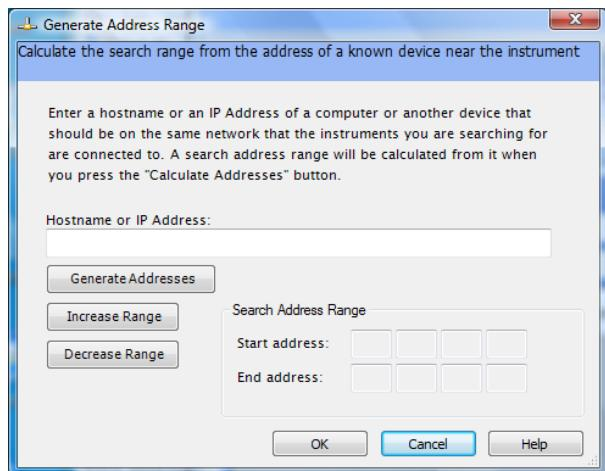

Figure 38 Generate Address Range Dialog
- a. Alternately, select the **Generate Address Range** button. This opens the following dialog (Figure 38).